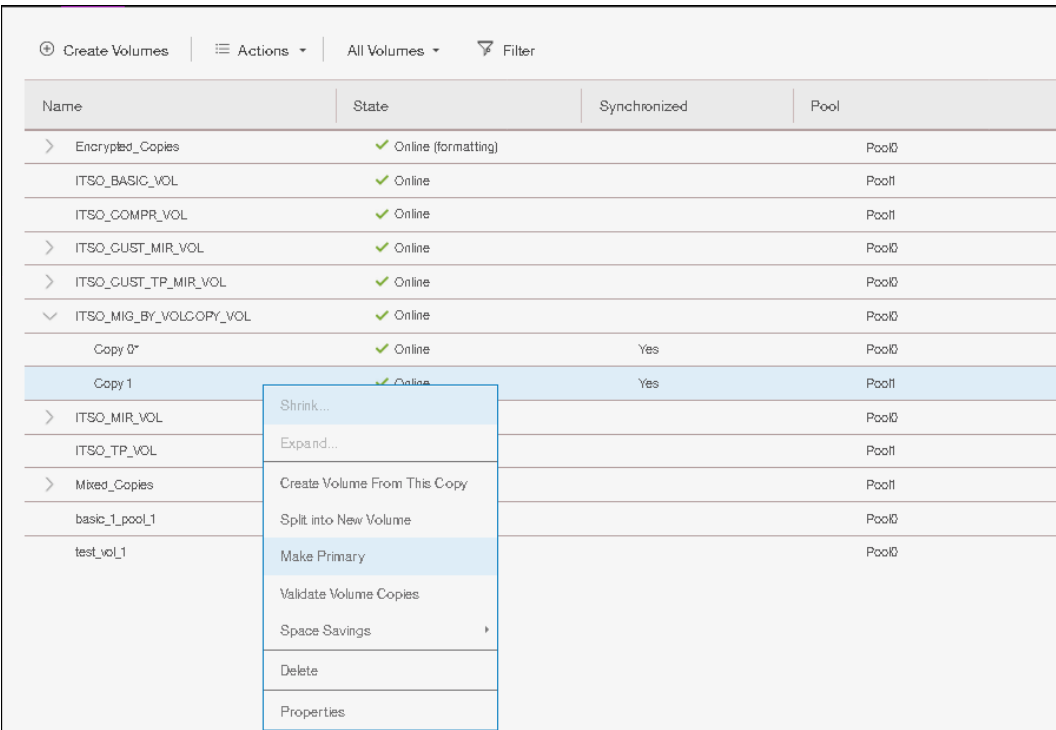

Figure 6-61 Making the new copy in a different storage pool as primary
4. Wait until the copies are synchronized. Then, change the role of the copies and make the new copy of the primary copy as shown in Figure 6-61.